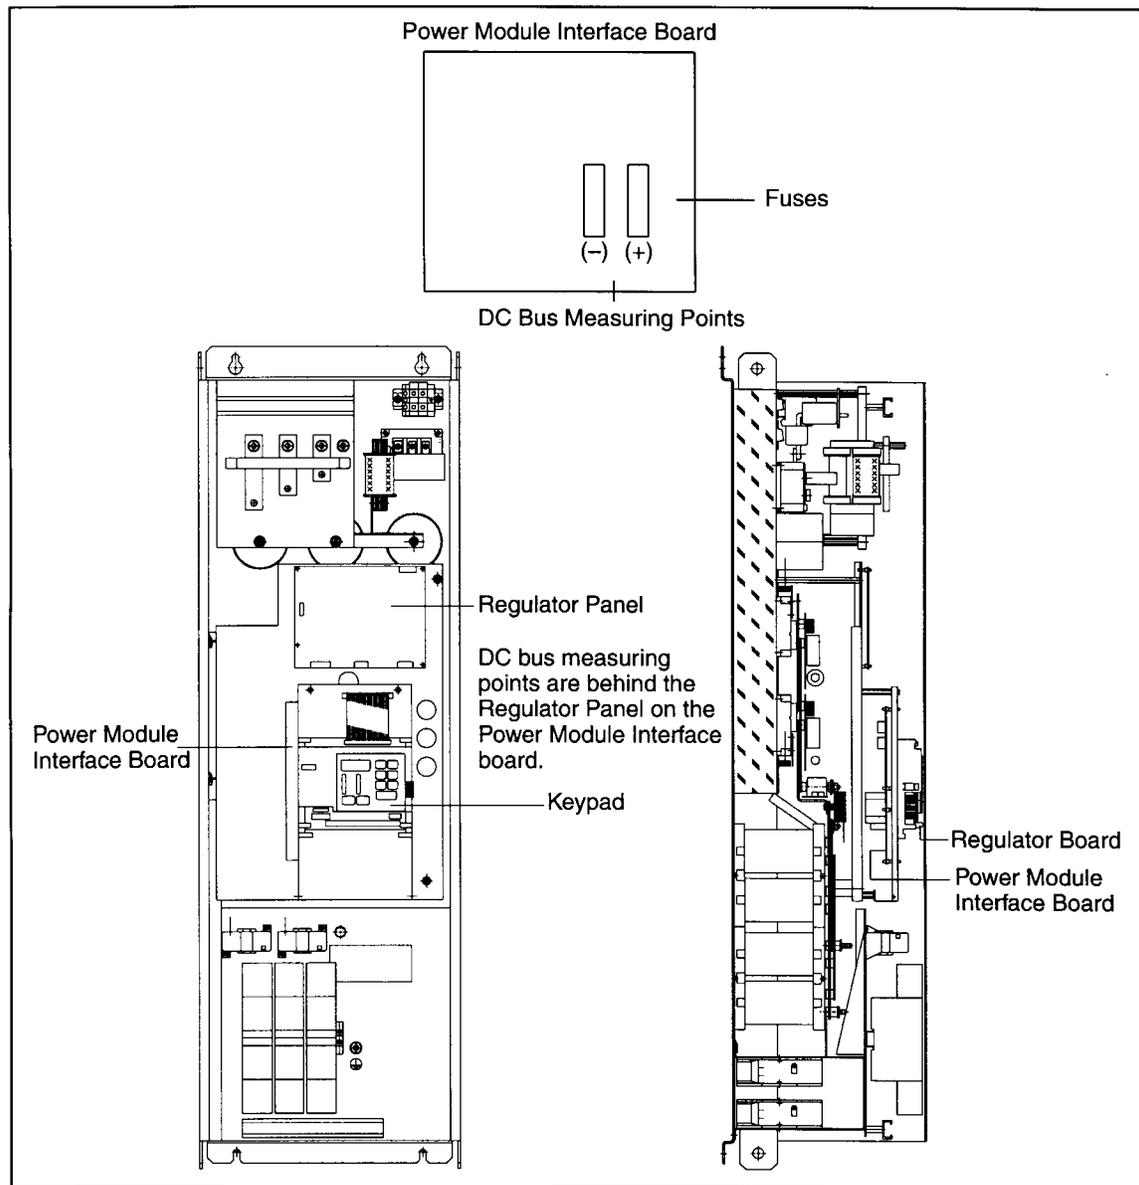

Figure 2.15 – DC Bus Voltage Terminals and Components (100 to 150 HP)
- iii. **100 to 150 HP @ 460 V only:** Take care not to touch any conductive traces. Use a voltmeter to measure the DC bus potential at the bottom of the fuse holders on the Power Module Interface board on the back of the Regulator panel. Refer to figure 2.15.